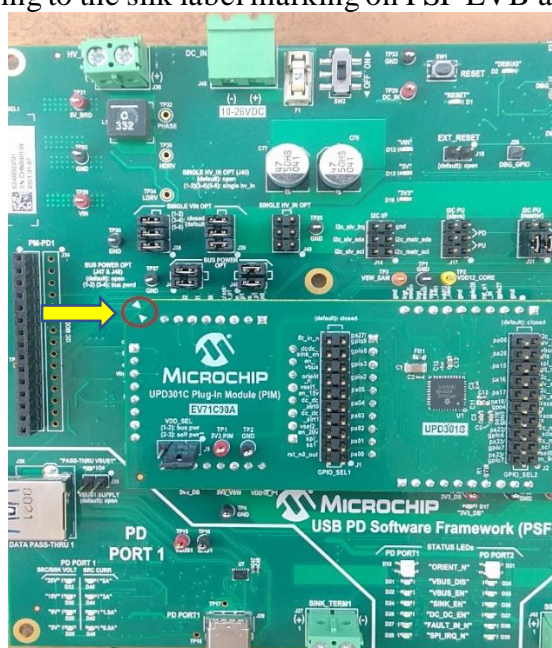

Figure 5.2 PIM Connection
2. Connect the PIM according to the silk label marking on PSF EVB as shown in the Figure 5.2